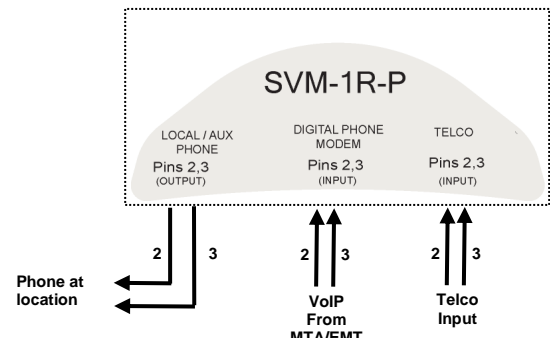

Figure 2
2. Plug one end of another RJ-11 cable to the digital phone modem receptacle on the SVM-1R-P. Plug the other end to the RJ-11 output from MTA/EMTA of cable modem (Figures 2 & 4)
3. Plug on end of the RJ-11 cable to the Telco Input receptacle on the SVM-1R-P (Figures 2 & 4).